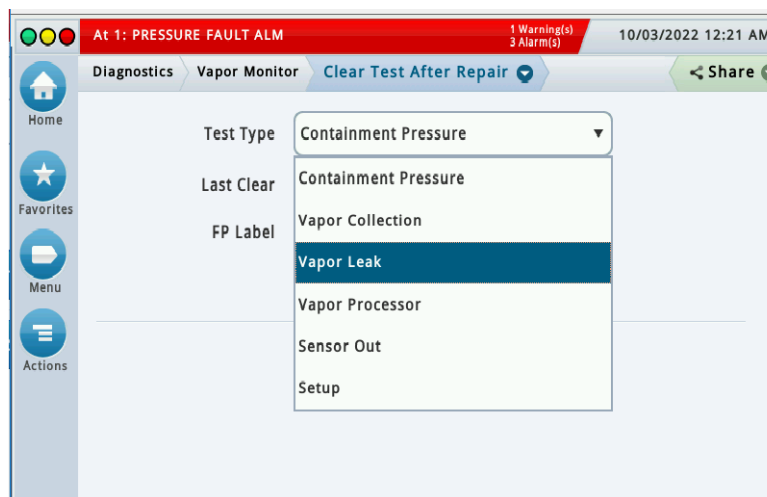

Figure 59. Select Test Type
2. In the Test Type drop-down box, scroll down to test type to clear, in this example, Vapor Leak (Figure 59).